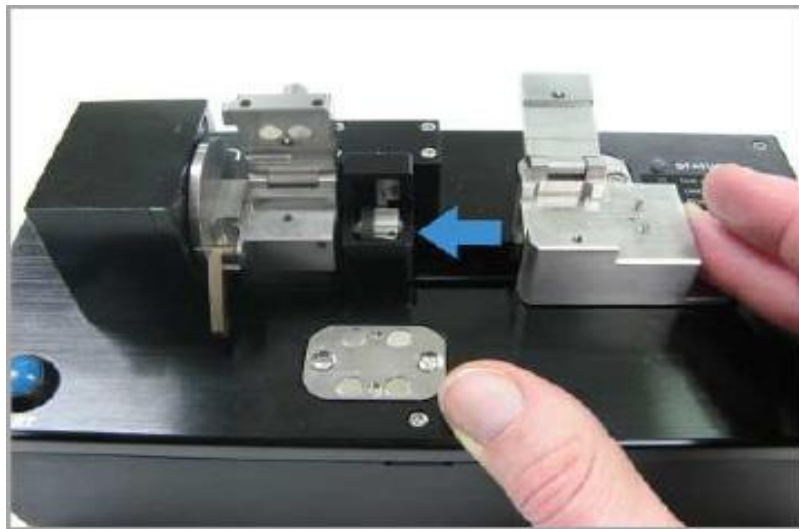

Figure 39 Pushing the Nest to the Left
2. If the nest has been moved to the right, push it to the left as shown in Figure 39.